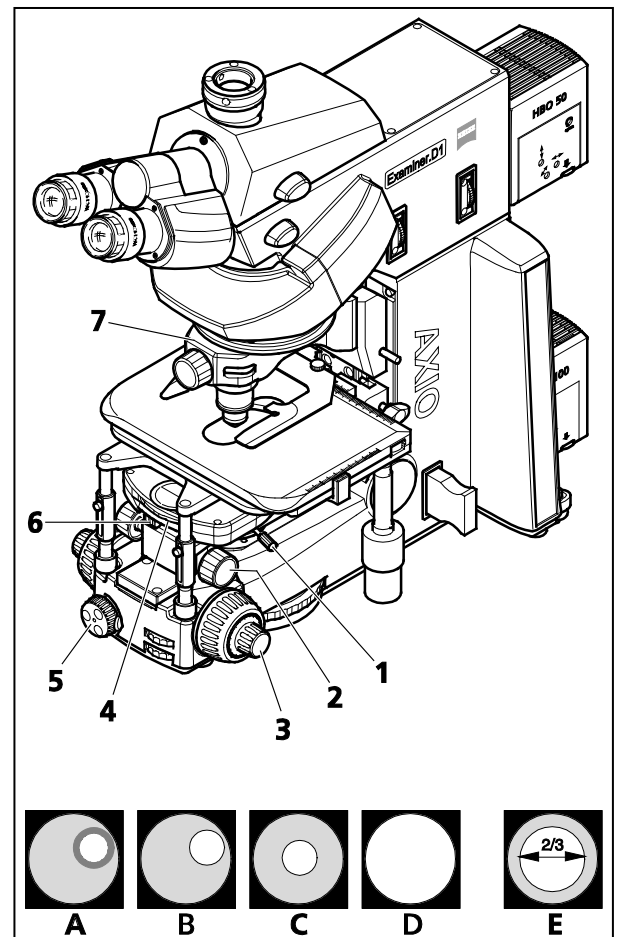

Figure 4-2 Microscope settings on the Axio Examiner in the transmitted-light bright field
- Swing the front lens at the condenser in position (for objectives $\geq 10\times$), and set the condenser to the upper stop using the pinion knob for height adjustment (Figure 4-2/2). The stop must be set to ensure that the specimen will not be lifted out of position by the condenser.
- Switch the revolving disk of the condenser (where existing) using the knurled ring (Figure 4-2/4) to the **H** position for the bright field.
- Swing the 10x objective in position at the objective mount or objective nosepiece (Figure 4-2/7), and focus on the specimen using the pinion knob (Figure 4-2/3).
- Close the luminous-field diaphragm (Figure 4-2/5) until the luminous-field diaphragm also becomes visible in the visual field (even if out of focus) (Figure 4-2/A).
- Lower the condenser using the pinion knob for height adjustment until the bright field stop rim appears sufficiently in focus (Figure 4-2/B).
- Center the luminous-field diaphragm using both centering screws (Figure 4-2/1) at the condenser carrier (Figure 4-2/C), and then open it until the stop rim just disappears from the visual field (Figure 4-2/D).
- For aperture stop setting (contrast), remove one eyepiece from the tube socket, and look into the socket with a naked eye. Set the aperture stop using the adjusting lever (Figure 4-2/6) to approx. 2/3 ... 4/5 of the objective output pupils' diameter (Figure 4-2/E). This aperture stop setting provides the best contrast with almost complete resolution in most applications, and thus constitutes the best compromise for the human eye.